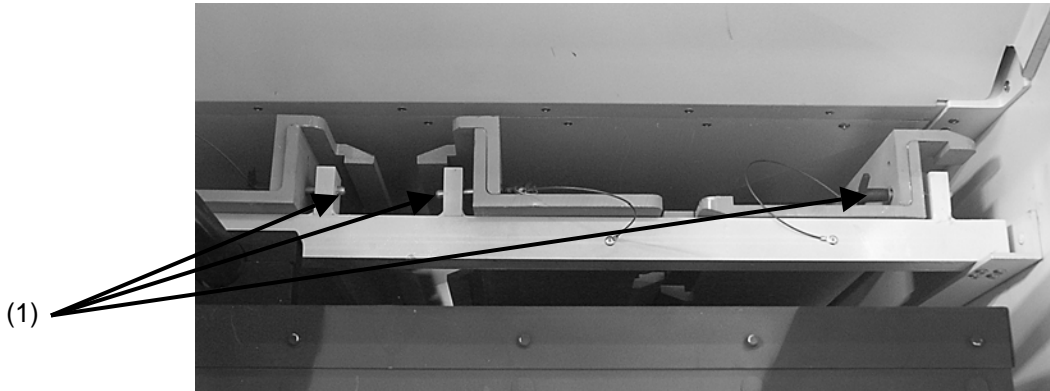

Figure 2-27. T-pins for detent rails.
1. Remove three T-pins (1) (Fig. 2-27) on each side of mechanical compartment by pushing end of pin in and pulling it straight out.